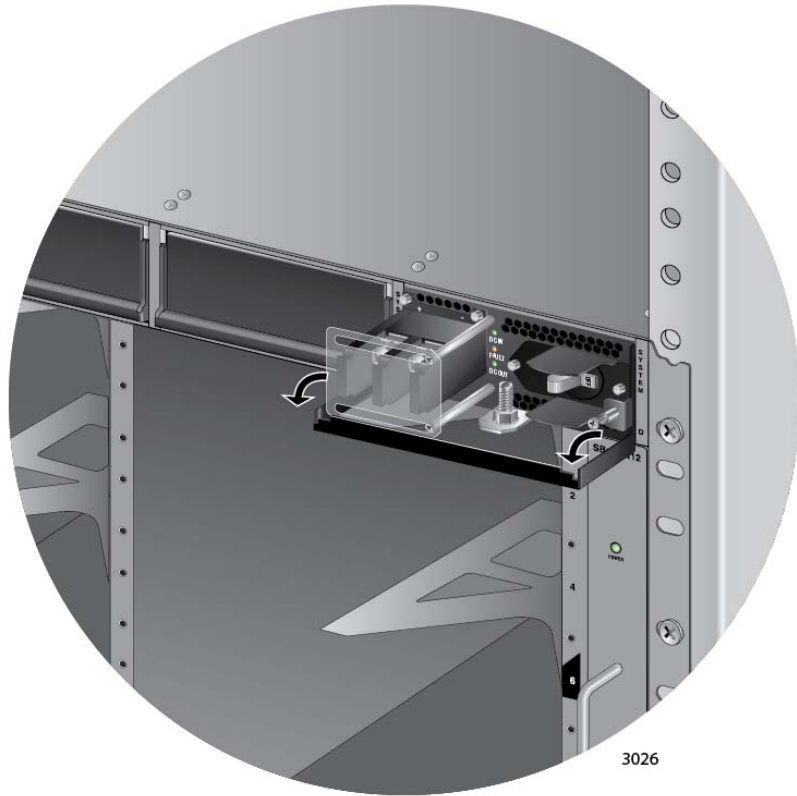

Figure 56. Locking the Handle on the AT-SBxPWRSYS1 DC System Power Supply
8. Lower the locking handle of the power supply module to secure the module in the slot, as shown in Figure 56.